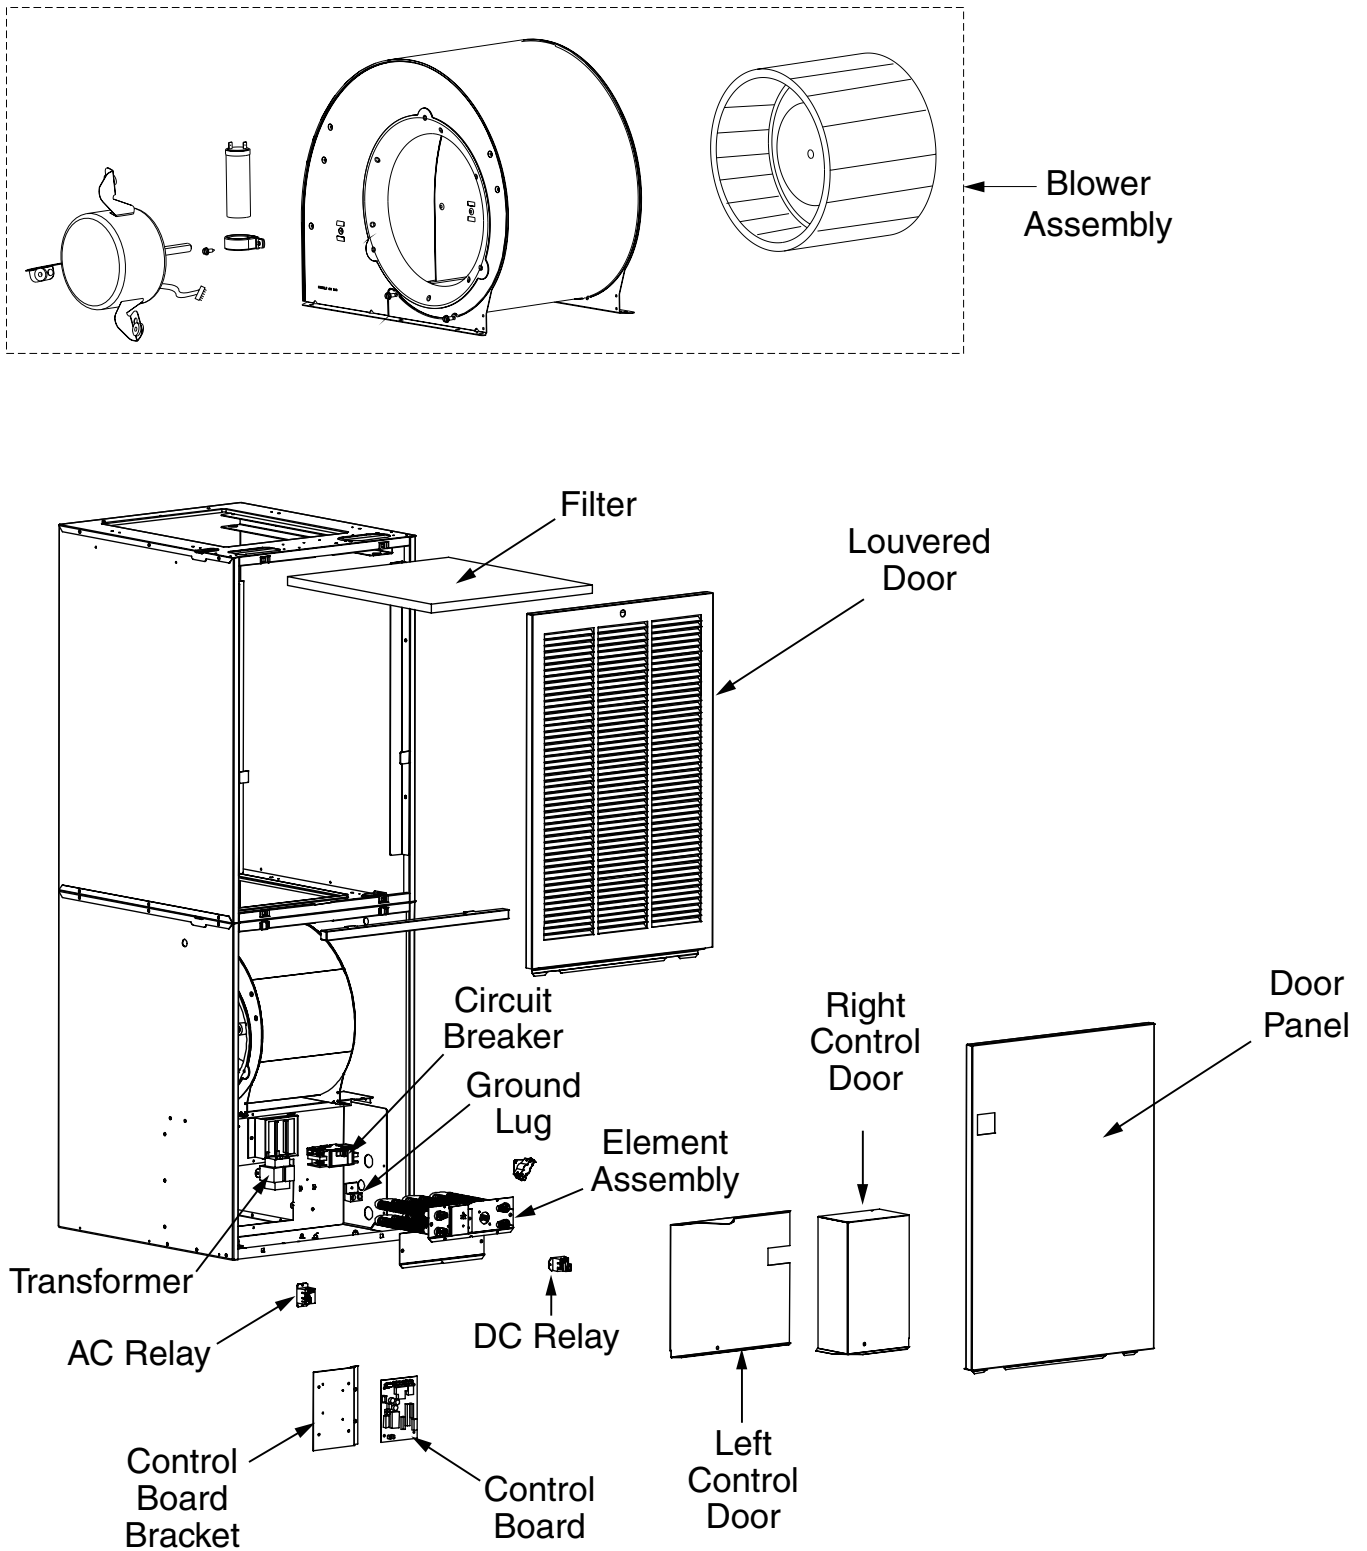

Figure 19. E5 Furnace Components
It is recommended that the line voltage (240 VAC) to the furnace be supplied from a dedicated branch circuit containing the correct fuse or circuit breaker for the furnace. For minimum circuit ampacity and maximum over-current protection, see Table 6. See unit wiring diagrams (Figure 23, Figure 24, Figure 25, & Figure 26) for wiring details. Electrical components are shown in Figure 19 (page 16).
6. Connect service ground wire(s) to grounding lug(s) provided. One ground is required for each supply circuit used. See ground lug in Figure 19 (page 16).